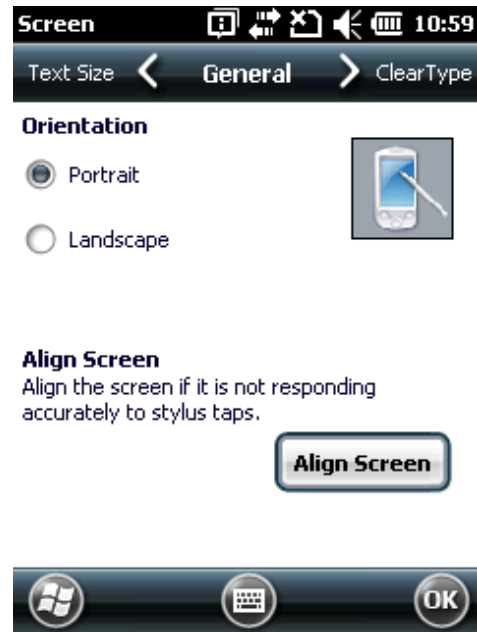

Figure 13
4. Tap **Recalibrate** to open the **Calibration** screen shown in Figure 13.